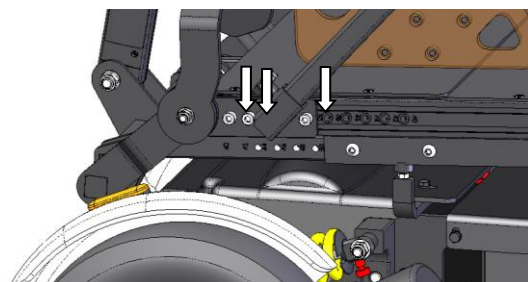

Figure 8 : seat depth adjustment sup.
- Remove the three screws from the upper seat pivot (see Figure 8) *on both sides of the chair*